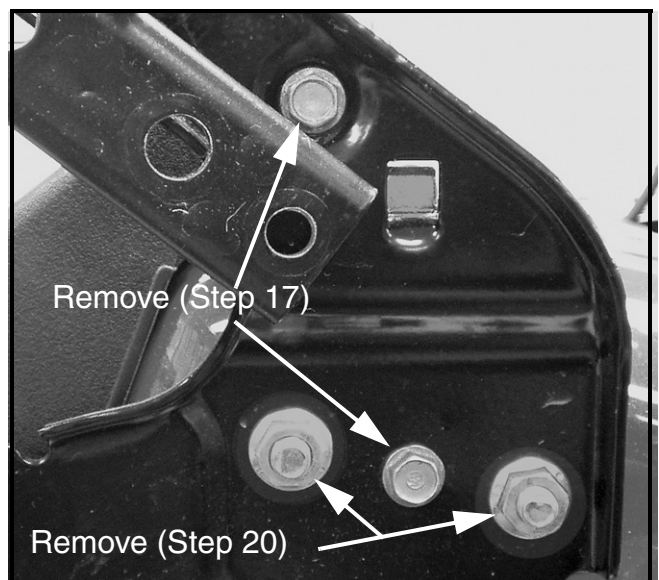

FIGURE 7
17. Using a 3/8" socket and ratchet, remove the right side screw securing the rear door pivot rod to the handle bracket and the screw securing the deck baffle. See Figure 7.
20 Using a 1/2" socket and ratchet, remove and discard the upper two hex flange lock nuts and carriage bolts securing the handle bracket to the deck. See Figure 7.